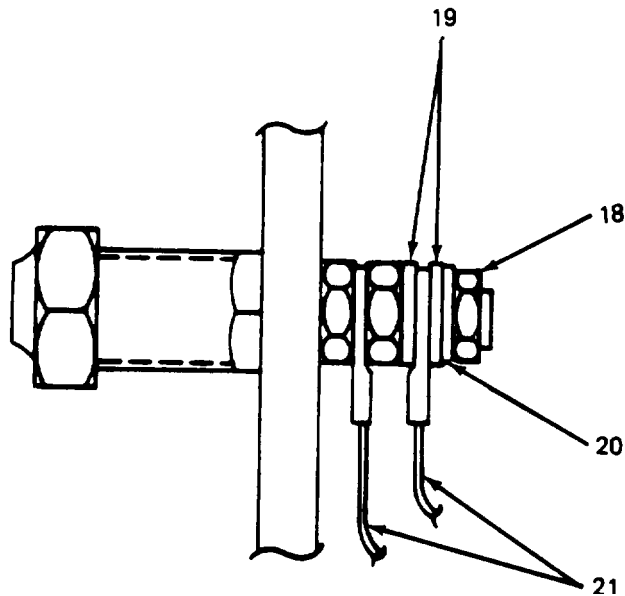

Figure 5-26. Load Terminal Board Stud Assembly
- (1) Tag load cables for identification purposes.
- (2) Using a small crescent wrench remove six hex terminal studs and retainers.
- (3) Beginning from L1 load terminal, install one flat washer, terminal lug, the other flat washer, lock washer and hex nut onto load terminal. Insure the terminal lug is oriented as in figure 5-26.
- (4) Tighten the hex nut securely.
- (5) Repeat Steps (3) and (4) for the remaining terminal lugs.
- (6) Remove tags from load terminal cables.
- (7) Reinstall load terminal board using the six hex terminal studs with wrench retaining lead assembly attached to the middle left stud.
- (8) Tighten load terminal clamping nut.
- (d) Connect test lead from positive terminal of generator set battery to pin D of connector J1 (8, figure 5-26).
- (e) Connect test lead from negative terminal of generator set battery to pin K of connector J1 (8).